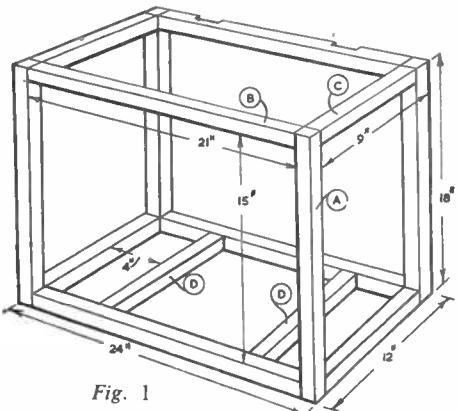
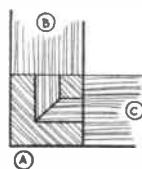

Fig. 1
Fig. 3
The framework is made from  $1\frac{1}{2}$ in. square material to the measurements shown in Fig. 1. Make allowance, when marking up the rails, for the tenons as shown in Fig. 2. They are mortised into the upright pieces (A) and are mitred to fit. Measurements of the tenons are shown in detail and the section in Fig. 3 shows the tenons mitred at the centre.